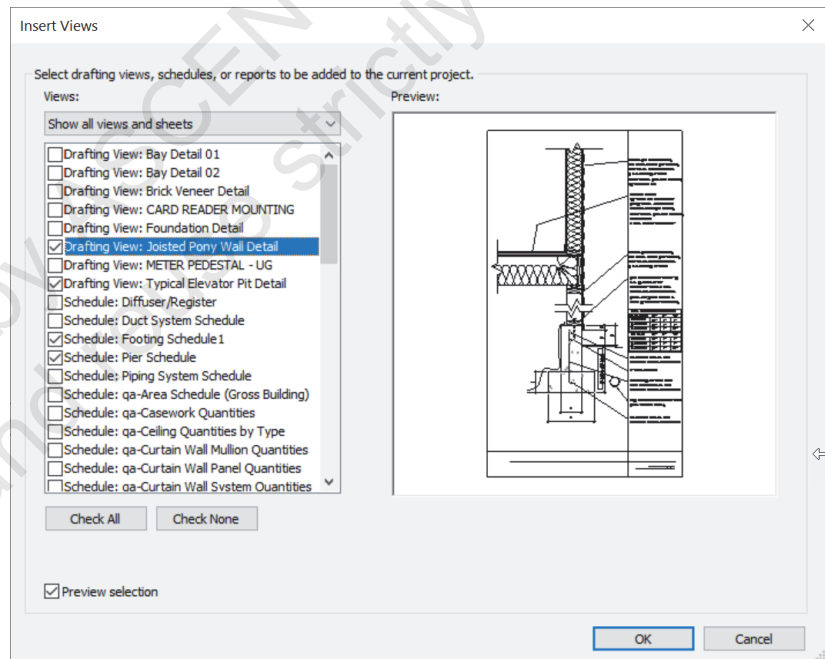

Figure 1–46
5. Select one or two drafting views and one or two schedules from the list, as shown in Figure 1–46.